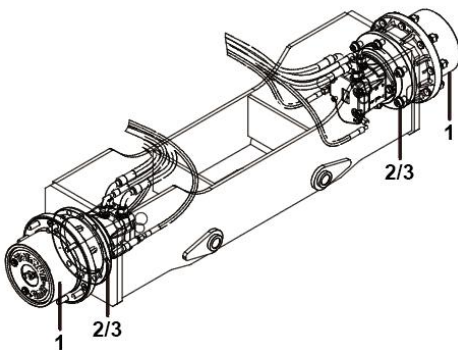

Fig. 3.49 Installing the reducer
- 1) The reducer shall be installed to the left rear axle housing in such a way that the threaded hole of the walking motor shown in Fig. 3.49 is approximately 45° diagonally upward and the service brake fluid port shown in Fig. 3.49 is approximately 45° diagonally downward;
- 2) The reducer shall be installed to the right rear axle housing in such a way that the threaded hole of the walking motor shown in Fig. 3.49 is approximately 45° diagonally downward and the service brake fluid port shown in Fig. 3.49 is approximately 45° diagonally upward;